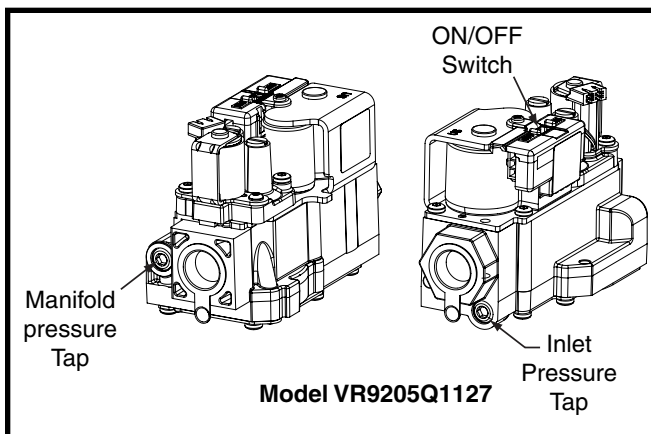

Figure 3. Inlet & Manifold Pressure Tap Locations
2. Using a 3/16" Allen wrench, remove the plug from the inlet pressure tap (INLET side of gas valve). See Figure 3.
4. Place the gas valve ON/OFF switch/knob to the ON position. See Figure 3.
3. Using a 3/16" Allen wrench, remove the manifold pressure tap plug located on the outlet side of the gas valve. See Figure 3 (page 3).